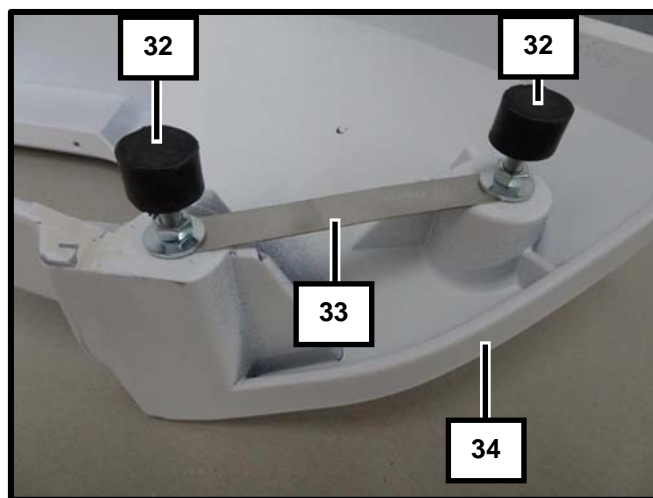

Fig. 47
- 42 Align the TECHART base frame (34) to the vehicle, for that adjust the stopper in such way that it fits to the side part, gap about 1mm.
**Adjust the height with the stoppers (32) (Fig. 47 and 48) in such way that the base frame fits perfectly.**